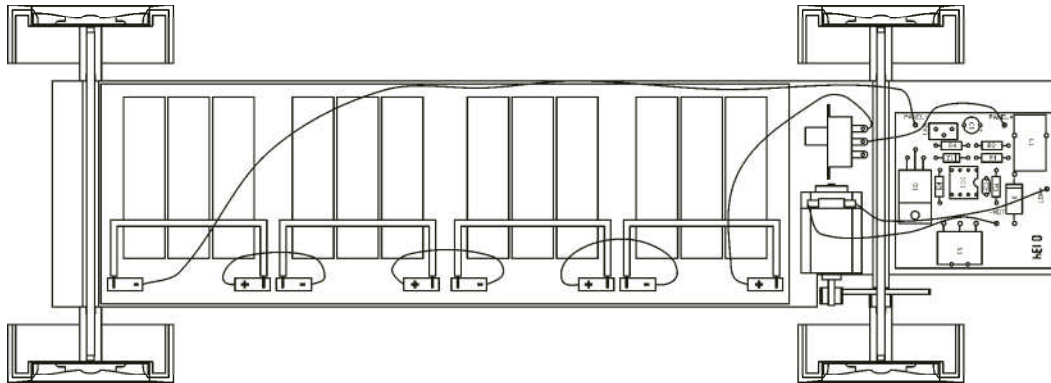

Figure 2 Plan View
- Before starting construction, the student needs to carefully plan and layout all of the components. The plan view of our prototype vehicle is shown in the drawing below (Figure 2). However, the concept has scope for variation. Students should design a vehicle to suit their own end usage.